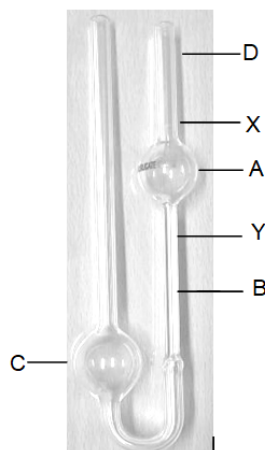

Fig. 8.3: Ostwald Viscometer
In this experiment, you will make use of the Ostwald viscometer. This is usually employed in the laboratory for the determination of the coefficient of viscosity of liquids. Ostwald viscometer is a simple apparatus and is shown in Fig. 8.3. it consist of a bulb A, with a mark (X) above and a mark (Y) below, attached to a capillary tube B and a storage bulb C.